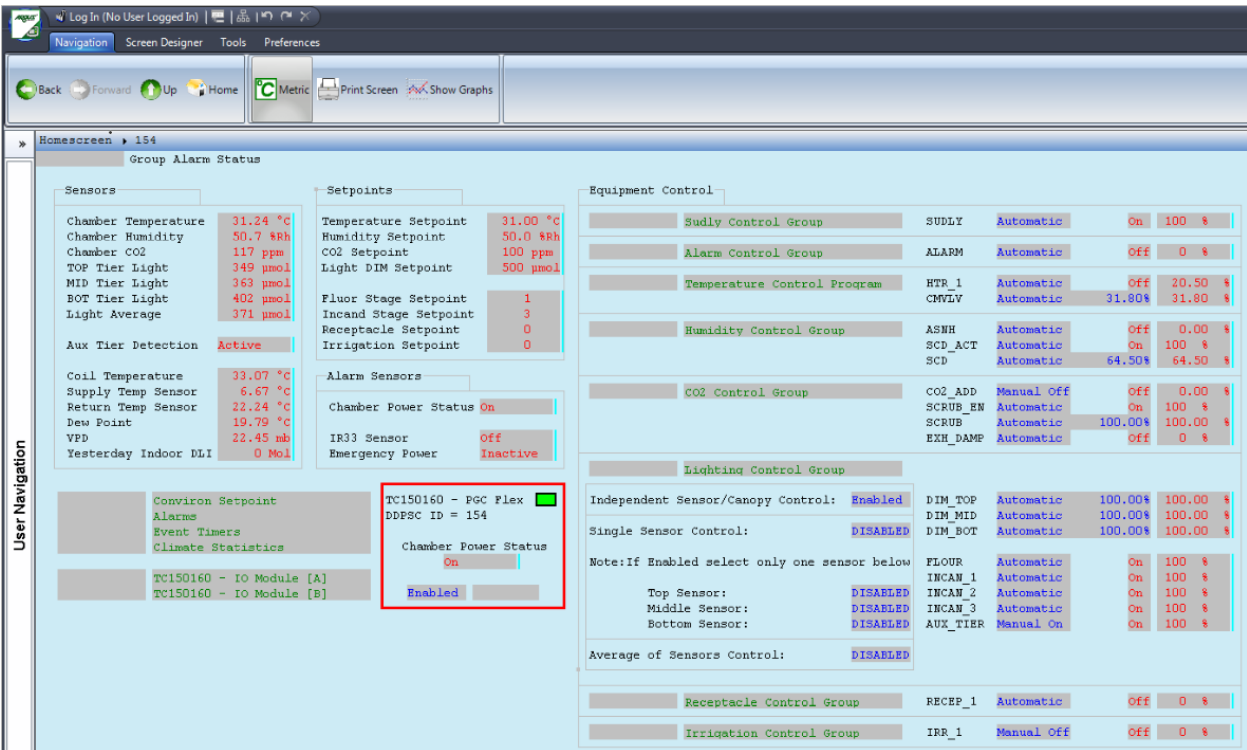

Figure 2-2 Chamber Settings Page
The **Chamber Settings** page appears (Figure 2-2).
- In the highlighted section on Figure 2-2, check that the following information is correct: